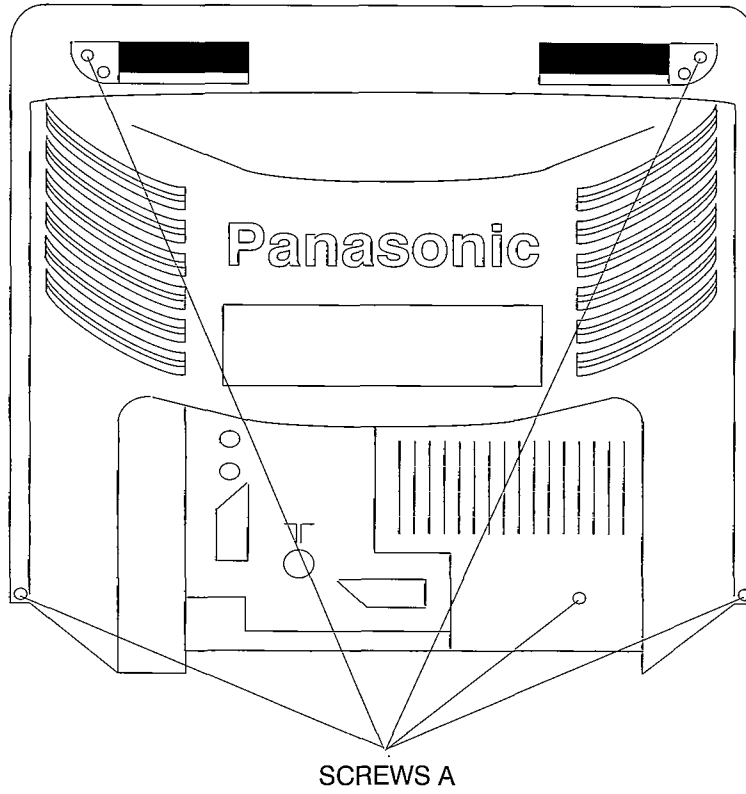

Fig.2.
1. Remove the 5 fixing screws (A) as shown in Fig.2